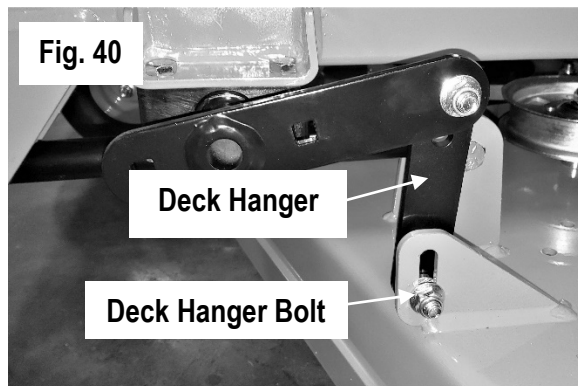

Fig. 40
4. Using a pair of $\frac{9}{16}$ " wrenches, loosen all deck hanger bolts on the top of the deck. These are the lower bolts in the slots of the deck as shown in Fig. 40. Do not loosen the upper bolts that attach the deck hangers to the actuator lift bars.